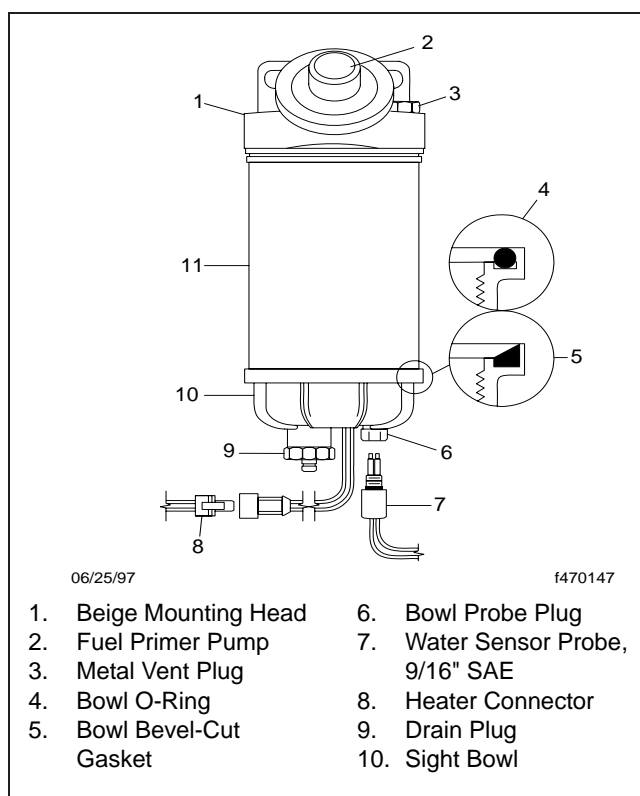

Fig. 1, Alliance or Racor Fuel/Water Separator
- 8.1. Loosen the vent plug. Then operate the primer pump until the fuel purges at the vent plug. See **Fig. 1**.